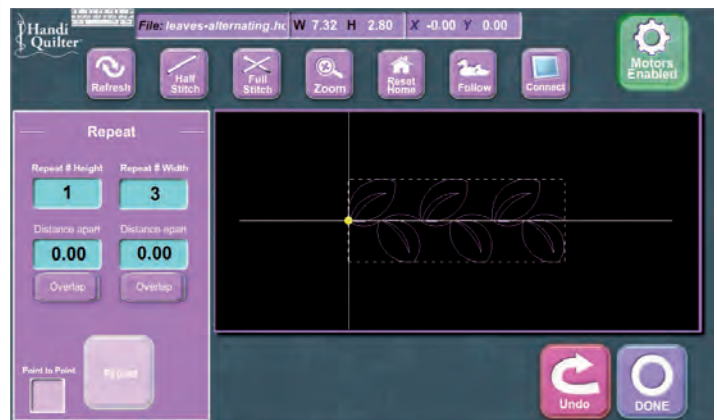

Figure 23
1. Enter the number of repeats desired in the “Repeat # Height” and/or “Repeat # Width” boxes by tapping on the appropriate box and entering the number of repeats in the pop-up number pad (Figure 23).